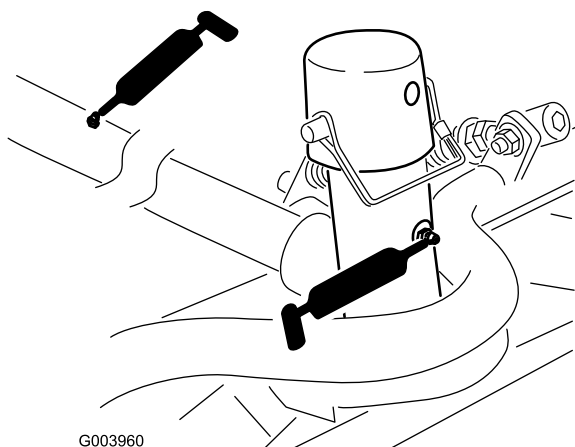

Figure 46
- Cutting-unit carrier-frame and pivot (2 each) (Figure 46)